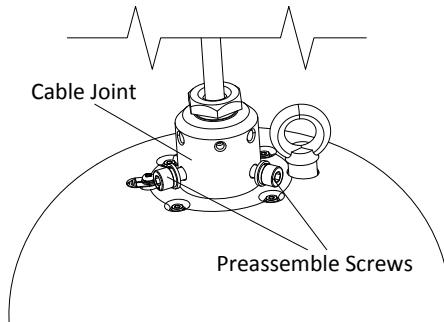

Figure 2-12 Insert the Screws
3. Route the cables into the bracket body. Insert three preassemble screws into the preassemble screw holes on the cable joint (do not tighten the preassemble screws) as shown in Figure 2-12.